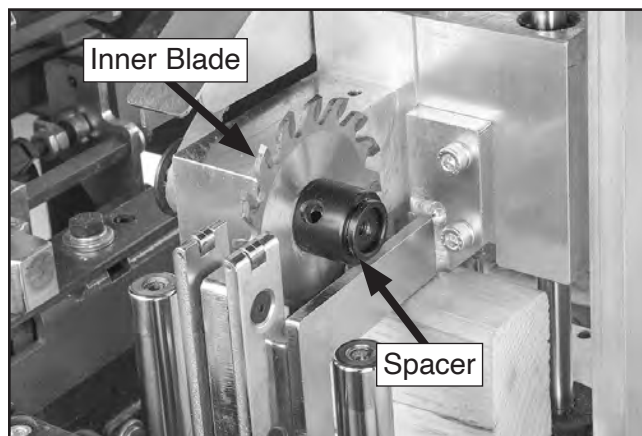

Figure 105. Location of inner trimmer blade components.
6. Remove spacer and inner blade (see **Figure 105**).
Note: Blade direction should cut in upward motion, as shown above in **Figure 105**.